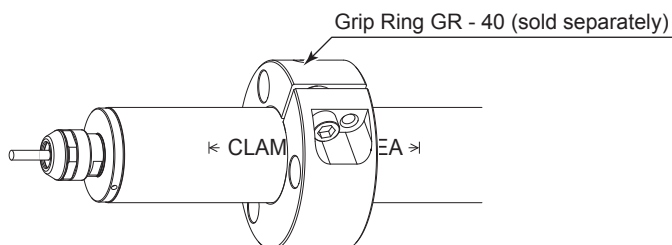

Fig. 23
\* When installing the Brushless Motor Spindle, it is recommended to use a " Grip Ring GR - 40 (sold separately (Fig. 23)) ". If the Grip Ring GR - 40 cannot be used due to the restriction of dimension and space, install as shown in (2) below.